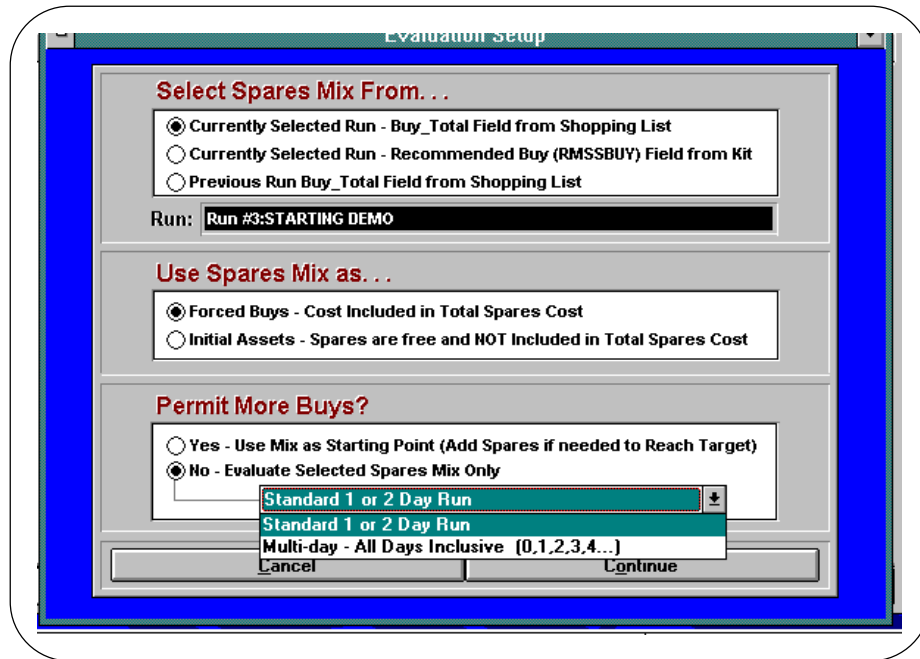

Figure 8-1
9. Select the **OK** button after the model checks to see if the kit (selected in step 1) has similar NSNs to the selected spares mix (step 5 - top box of Figure 8-1).
Once you select the kit and edit the parameters, you then press the **Run Evaluation** button and Figure 8-1 appears. The screen in Figure 8-1 allows the user a lot of flexibility on how to run the evaluation as we now describe.
- **Previous Run Buy_Total Field from Shopping List.** With this analysis type selected, the model uses a spares mix from an alternate run and possibly an alternate kit. For instance, let's say you want to determine how well the spares mix from our Starting Demo performs if each item's demand rate increased by 10%. You would first create a copy of the Starting Demo kit and increase each component's demand rate by 10% (you can do this with the Copy Baseline Kit- Sensitivity Changes). Then select the newly created kit from the baseline kits when you run the model, enter the run description and other parameters, and press the **Run Evaluation** button (Figure 8-1 appears). By selecting the **Previous Run Buy_Total Field from Shopping List** radio button, you can then choose the Starting Demo spares mix even though it is from a different kit. Since this option allows you to pick any run, you have to make sure there are some NSN numbers in common or else the model will cancel the operation as we will describe soon. Also, if you originally selected a baseline kit to start the run, the model forces you to select a previous run since a baseline kit contains no spares mix.
This group of options provides the user with flexibility in using the spares mix just selected. The user can either treat the spares mix as part of the total spares to be purchased or as "free" initial assets. For that the user selects one of the following radio button options displayed in the middle box of Figure 8-1, labeled "Use Spares Mix as..".
The user can decide whether to purchase additional spares over the selected spares quantities in order to meet the target. The user selects one of the following radio button options displayed in the bottom box of Figure 8-1, labeled "Permit More Buys".
Once you have made your choice in each section of the Figure 8-1 screen, you press the **Continue** button (or **Cancel** to get completely out of the model run). You then see Figure 8-2, which is a list of the spares mix you selected with the first set of radio buttons (NSN and spares quantity). This allows you to make sure you selected the right mix of spares. This screen also lets you edit the spares quantity of each component. Close the window, by clicking the control menu box in the upper left corner of the window, to continue processing the evaluation.
As described earlier, this option is accessed via the evaluation screen (Figure 8-1). For the option Permit More Buys? — You must select **No — Evaluate Selected Spares Mix Only**. (When you select this analysis type, the model uses only the selected spares mix specified — no more or less spares.) This will open a drop-down list box with two selections. Select **Multi-day - All Days Inclusive (0,1,2,3,4 ...)**. This will result in an evaluation run of the model. The model will evaluate the availability that this kit yields on each consecutive day to be analyzed. The model will evaluate the kit on each day from day 0 through the last